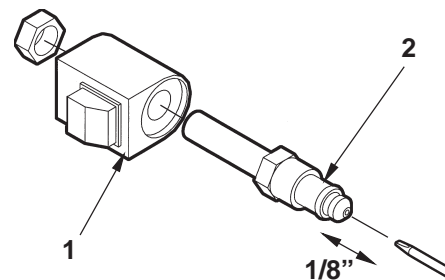

FIG. 11
4. Check the Valve Stem by removing the Coil Assembly (**Item 1, FIG. 11**). With platform supported, unscrew the Valve Stem (**Item 2, FIG. 11**) from the Pump. Push on the plunger located inside the Valve Stem by inserting a small screwdriver blade in the end. If the Plunger does not move freely (approximately 1/8") replace the Valve Stem.